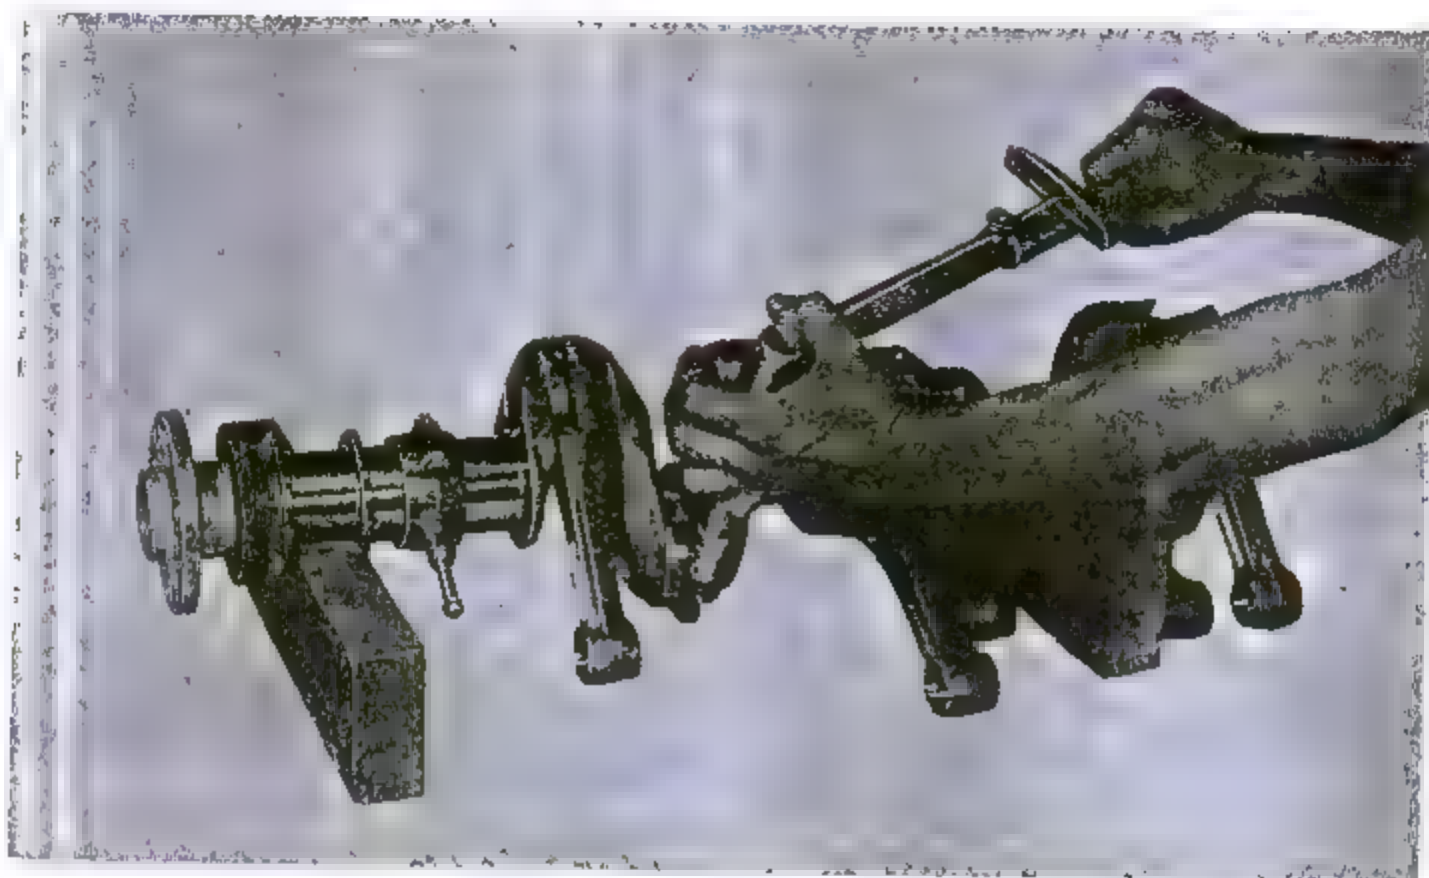

Figure 6-4. Tightening Connecting Rod Cap Bolt Nut
f. Use a torque indicating wrench and a suitable length of extension to drive a 1/2-inch hex socket; then start at No. 1 rod and progressing forward, tighten all cap bolt nuts to a torque within limits specified in Table of Tightening Torques, Section X. (Refer to paragraph 6-15 regarding slot alignment.) (See figure 6-4 for method of holding rod and maintaining torque wrench alignment.)